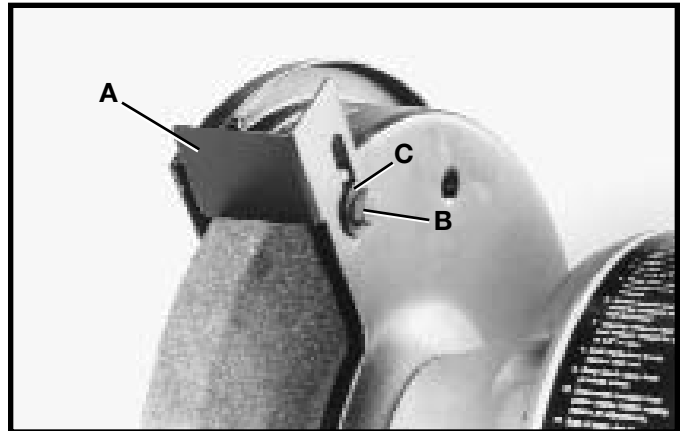

Fig. 5
Attach spark guard (A) Fig. 5, to each wheel guard, using the 1/4-20x1/4" hex head screw (B) and 1/4" washer (C) as shown. The spark guard (A) should be adjusted as close as possible to the grinding wheel so that sparks never strike the operator's hand. As the wheels wear down, the spark guard (A) should be adjusted accordingly.